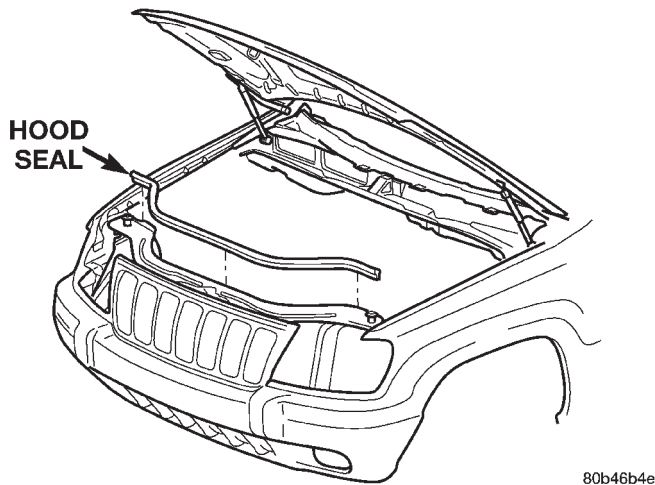

Fig. 2 Hood Seal
- (1) Raise hood.
- (2) Pull hood seal from upper radiator crossmember.
- (3) Separate seal from upper radiator crossmember (Fig. 2).